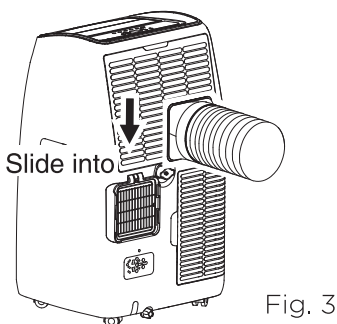

Fig. 3
d. Install the Hose Inlet into the groove at the back of the unit and extend the exhaust hose. (see Fig. 3)